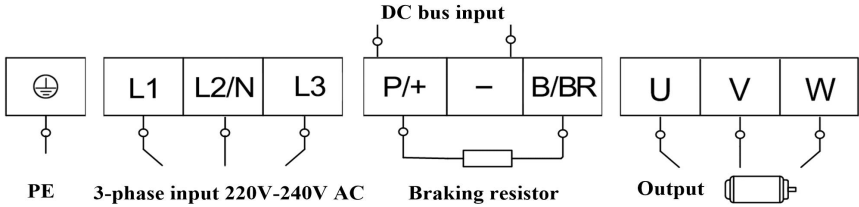

Fig 3-3 Power terminals sketch
- 2) Power terminals sketch of inverter with 3-phase 230V 0.4-5.5KW showed as below in Fig 3-3.